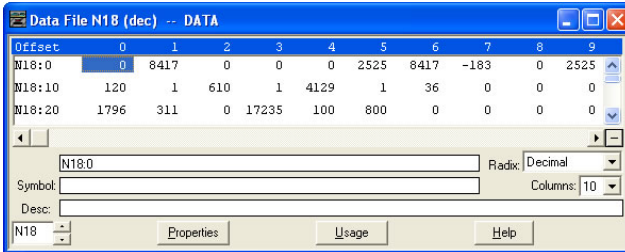

Figure 123: Monitoring the Data Being Read from the Inverter
- a) To view the registers being read from the interface card, double-click the data file N18 under "Data Files" in the controller organizer view. 25 register values starting at register #2050 are being continuously read from the interface card and placed in the 25 sequential offsets of N18 starting at N18:1. Refer to Figure 123. We can see that N18:9 (register 2058 / output frequency) has a value of 610 (25.25Hz), N18:12 (register 2061 / output voltage) has a value of 610 (61.0V), etc.